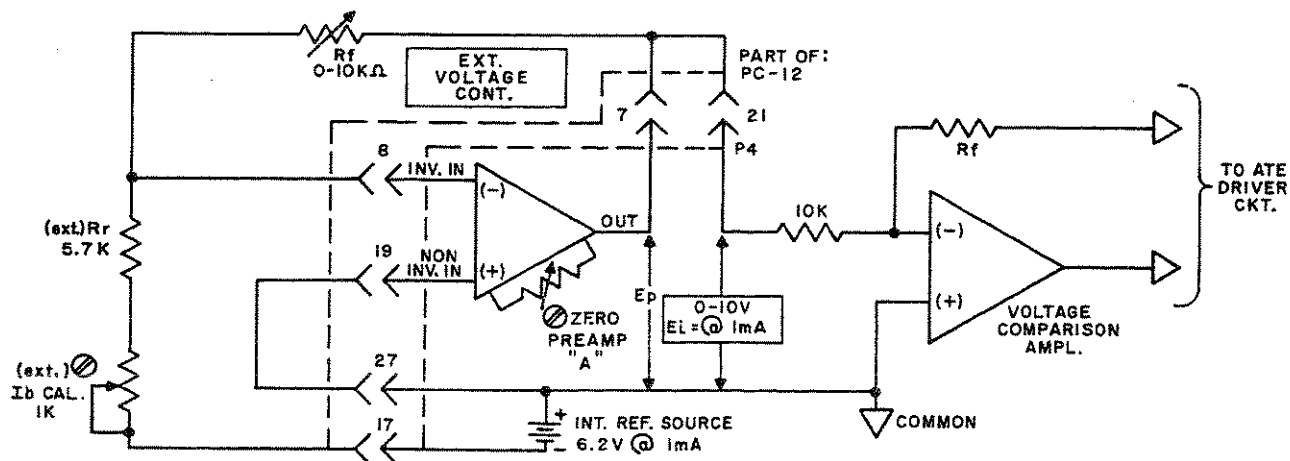

FIG. 3-7 TWO-TERMINAL RESISTANCE PROGRAMMING OF THE VOLTAGE CHANNEL, USING PREAMP "A" AND THE INTERNAL REFERENCE SOURCE.
- 3-46 As mentioned previously (refer to PAR.'s 3-39, 3-40) a wide variety of external programming sources can be used to control the ATE voltage channel. By means of one or both of the ATE's uncommitted preamplifiers, the external control potential can be amplified, inverted and/or summed with an internal d-c signal. Alternately, the preamplifier can be used to perform remote, two-terminal resistance programming of the ATE voltage channel. As seen in FIG. 3-7, the INT. REFERENCE SOURCE (6.2V @ 1 mA) is connected to PREAMP "A" and the external input/feedback components are calculated to produce the required 0 to 10 volts control signal from the preamplifier output.
3-47 (Refer to FIG. 3-7). The preamplifier functions here in the inverting configuration, producing its output voltage ( $E_p$ , which is made equal to the required control voltage " $E_i$ ") according to the equation: